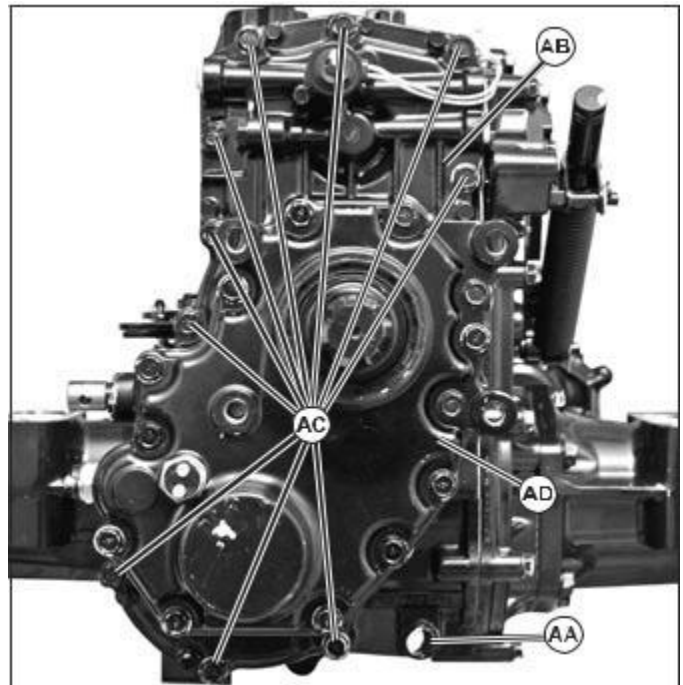

Fig. 21, PTO Drive Train (Mid and Rear PTO) Removal
1. Remove plug to drain oil from transaxle (AA). (Fig. 21)
2. Remove rear PTO (AD). (See “Rear PTO Removal and Installation” on page 14.)
3. Remove (9) cap screws (AC) to remove rear cover (AB). (Fig. 21)